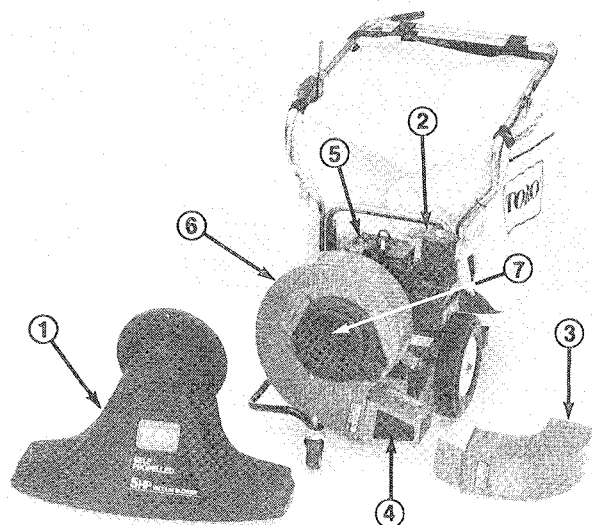

Figure 15
1. Remove knob, washer, and snout (Fig. 15).